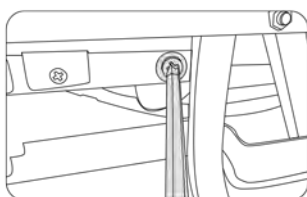

Figure 9
- Remove the screw on the back-end of the armrest (Note: Zip the backrest kneading cloth open completely to find it). (Figure 9)